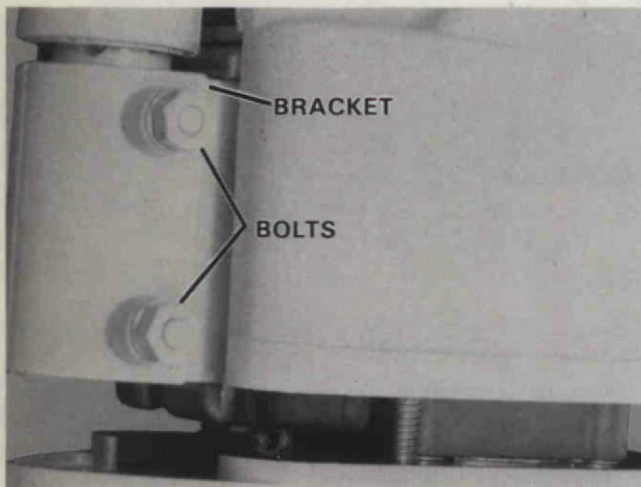

Figure 4. Removing Lower Shock Mount.
E. Remove six (6) cap screws securing power head and support plate to motor leg.
A. Remove two (2) hex bolts, lockwashers and nuts securing lower shock mounting bracket. Figure 4.